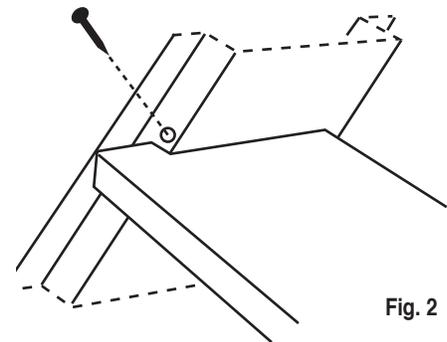

Fig. 2
**STEP 5** SECURE STAIR TREAD (fig.2) by driving an 8d nail straight down into the tread through the hole provided in the GORDON STAIR STRINGER.